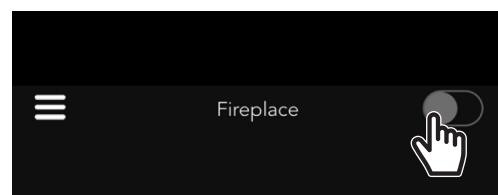

Fig. 13
- Turn off your fireplace by tapping the switch on the top right corner. (Fig. 13)